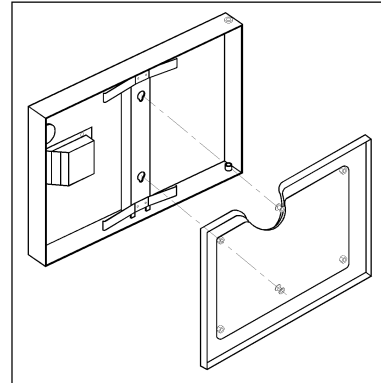

Figure 2-6 Door Gasket Assembly
- Remove the door gasket assembly (see Figure 2-6).